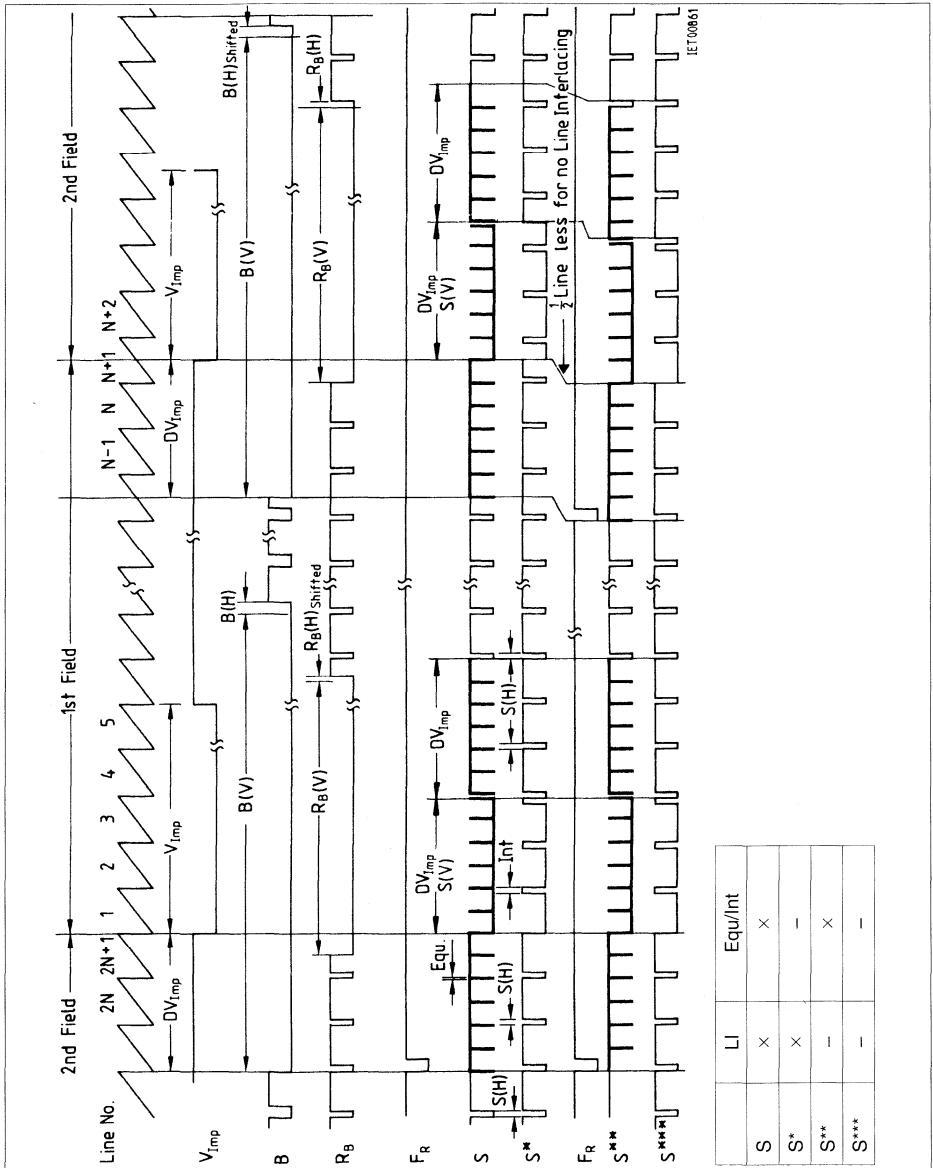

Figure 4 Composite Frame Signals for Even Number of Equalizing Pulses
- No Equ. & Int. in middle of line. Int. corresponds to S(H) shifted. See figures 4 and 5.